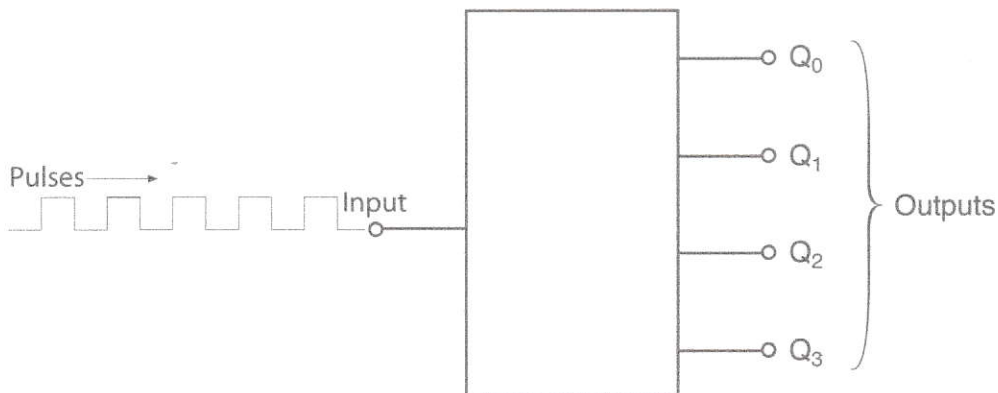
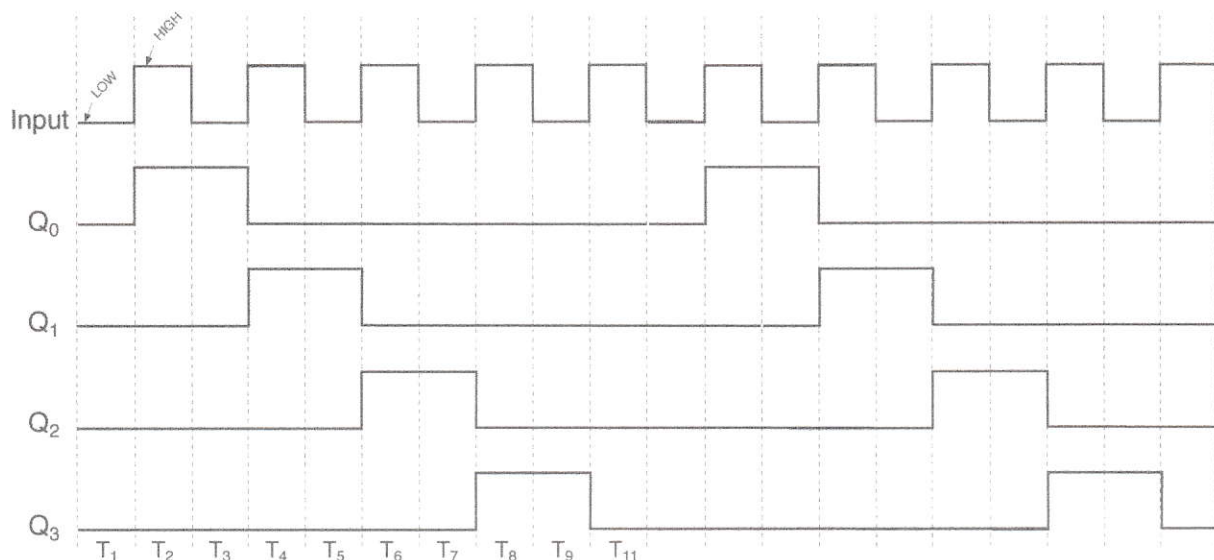

Figure 8 - Sequential Circuit
Figure 9 - Timing Diagram of Circuit in Figure 8
Figure 8 shows a sequential circuit similar to the one of Figure 2. It has one input that receives pulses, and four outputs Q_0 to Q_3 . The outputs of this circuit are normally low (0), but they go High (1), one at a time, as
Figure 9 shows the timing diagram that represents the operation of the digital sequential circuit of Figure 8. The first thing that you should notice is that axis are not shown in the diagram. Even though it is implied, the imaginary horizontal axis represents the time, and the imaginary vertical axis represents voltage. Actually, you can imagine, that each one of the five signals shown in the diagram has its own set of axis, as shown in figure 10 for the input signal.
The timing diagram of Figure 9 tells us that during the period of time T1, the input and the four outputs have a Low (0) logic level. When the first pulse arrives at the input, during the time period T2, the input goes High (1), output Q1 goes High (1), and outputs Q2 to Q3 remain Low (0). During T3 the input goes Low but output Q1 remains High. Outputs Q2 and Q3 remain Low. During T4 the second pulse arrives at the input and it goes High. Q0 goes Low but Q1 goes High. Q2 and Q3 remain Low. Now you can continue analyzing the operation of this sequential circuit as we have explained. Notice that at the end of T11 the entire cycle starts all over.
with timing diagrams and truth tables. Figure 11 shows the truth table that represents the operation of the sequential circuit of Figure 8.